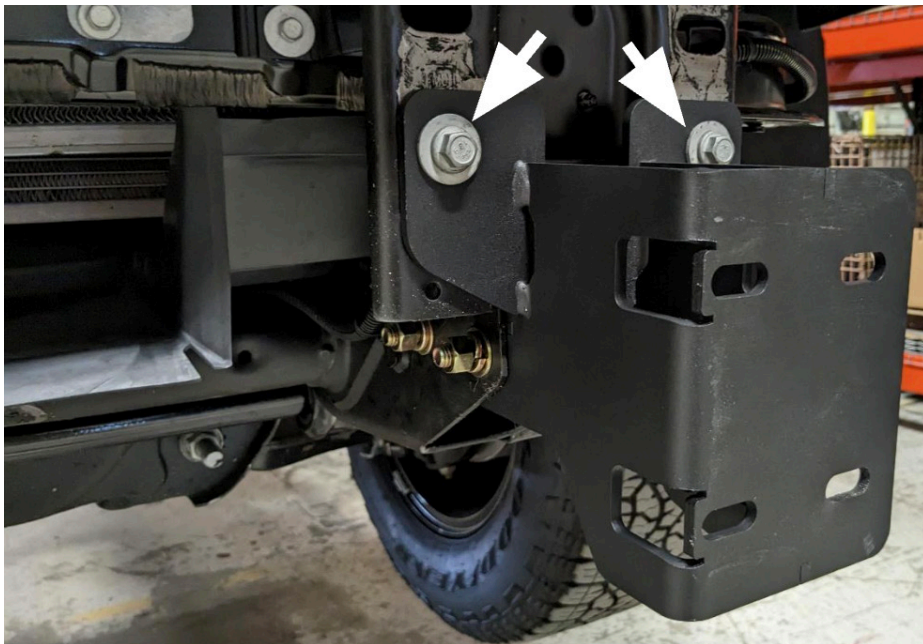

Figure 24
21. Reusing the factory hardware and 15mm socket wrench, install the mounting brackets (DS Part#: 23136 / PS Part#: 23137) onto the frame horns. (Figure 24)